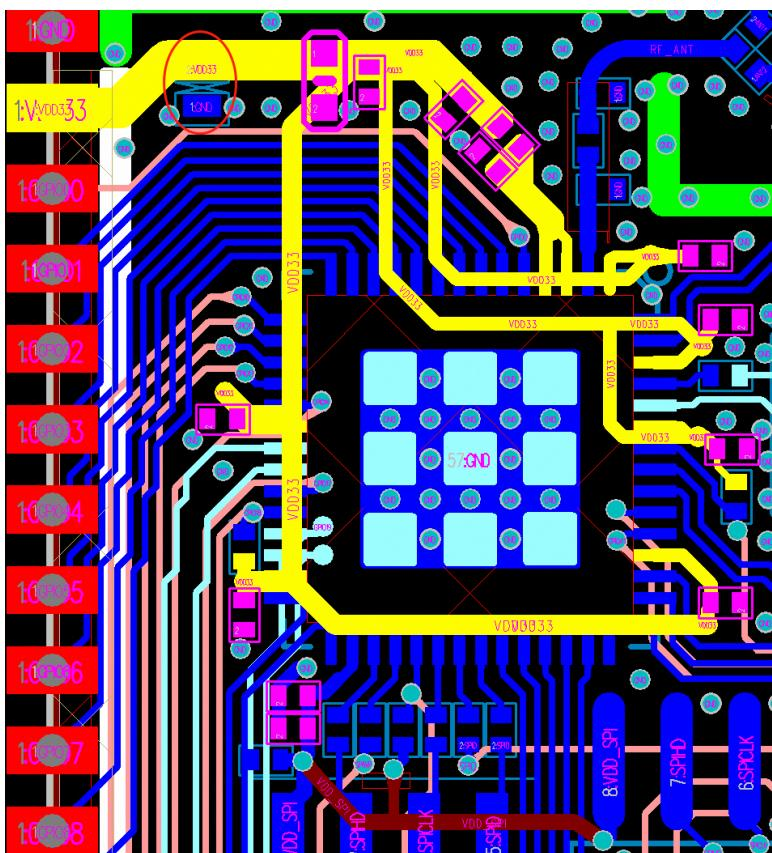

Figure 13: ESP32-S2 Power Traces in a Four-layer PCB Design
- The 3.3 V power traces, highlighted in yellow, are routed as shown in Figure 13. The width of the main power traces should be at least 25 mil. The width of the power traces for pin3 and pin4 should be at least 20 mil. The width of other power traces is preferably 10 mil.
- As shown in Figure 13, an ESD protection diode is placed close to the power port (marked in red circle). A 10 μ F capacitor is required before the power trace connects the ESP32-S2 chip, to be used in conjunction with a 0.1 μ F capacitor. Then the power traces are divided into two ways from here and form a star-shape topology, thus reducing the coupling between different power pins. Note that all decoupling capacitors should be placed close to the power pin, and ground vias should be added adjacent to the ground pin for the decoupling capacitors to ensure a short return path.
If you need to add a thermal pad EPAD under the chip on the bottom of the module, it is recommended to employ a nine-grid on the EPAD, cover the gaps with ink, and place ground vias in the gaps, as shown in Figure 13. This can avoid tin leakage when soldering the module EPAD to the substrate.